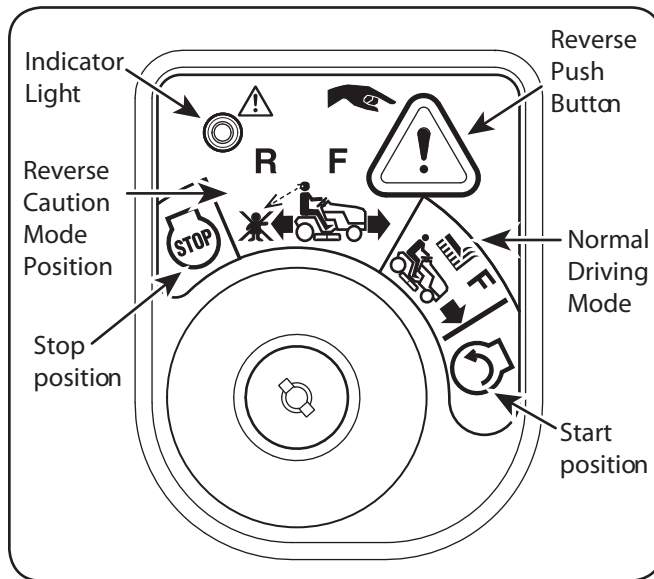

Figure 5-1
2. Turn the key from the NORMAL MOWING  (Green) position to the REVERSE CAUTION MODE  (Yellow) position of the ignition module. See Figure 5-1.
3. Press the REVERSE PUSH BUTTON  at the top, right corner of the ignition module. The red indicator light at the top, left corner of the ignition module will be ON while activated. See Figure 5-1.